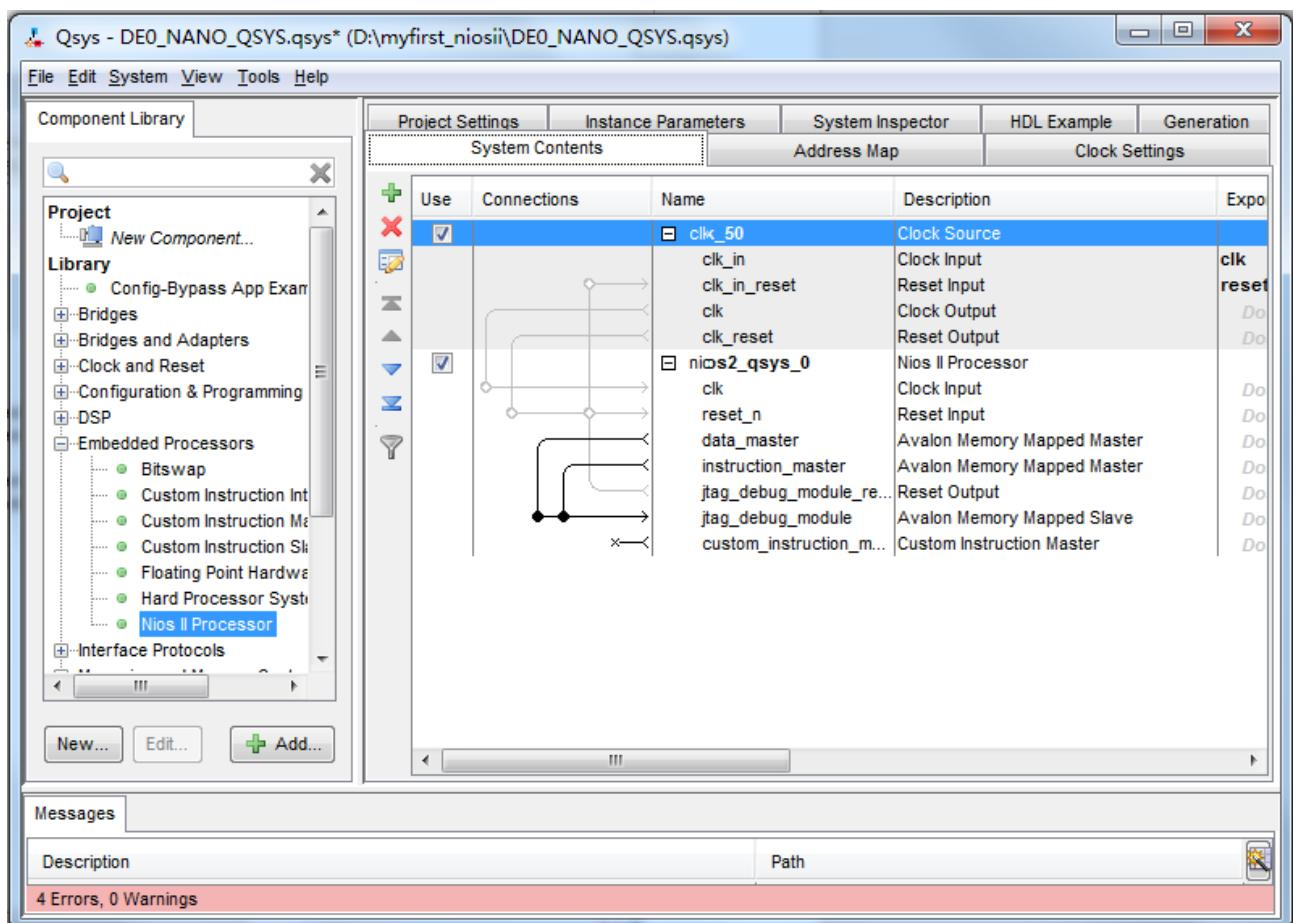

Figure 1-17 Add Nios II CPU completely
10. Click Finish to return to main window as shown in **Figure 1-17**.